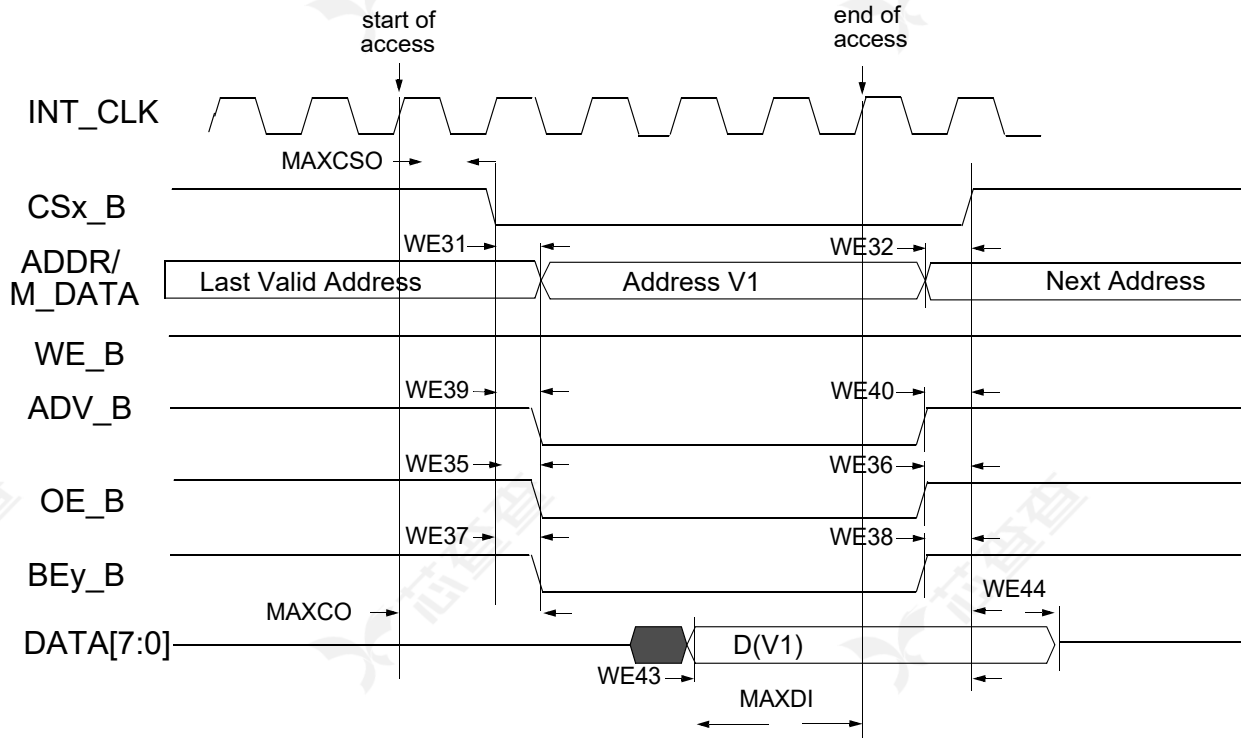
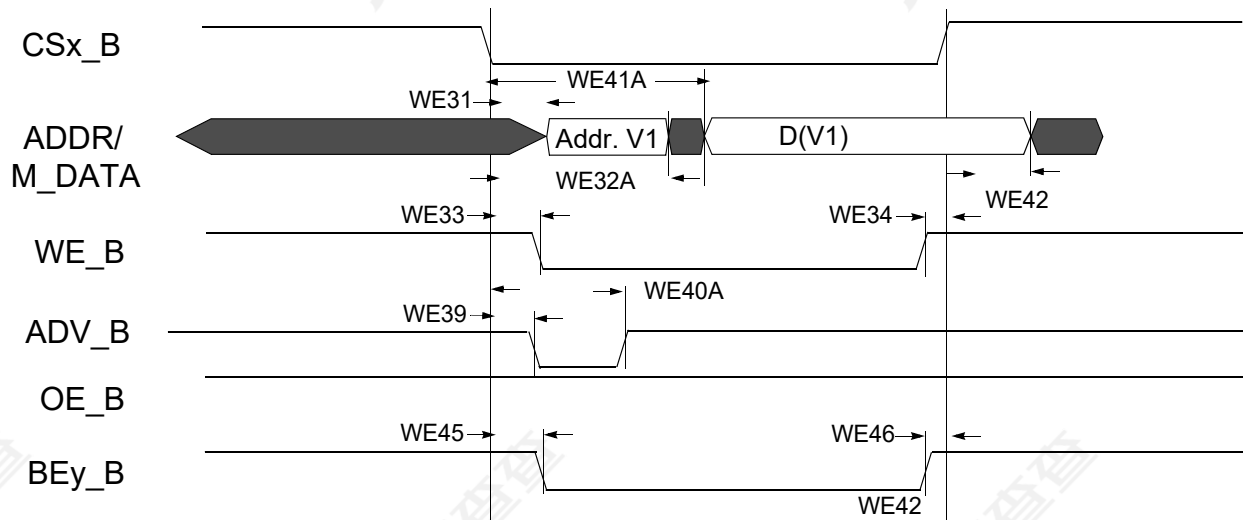
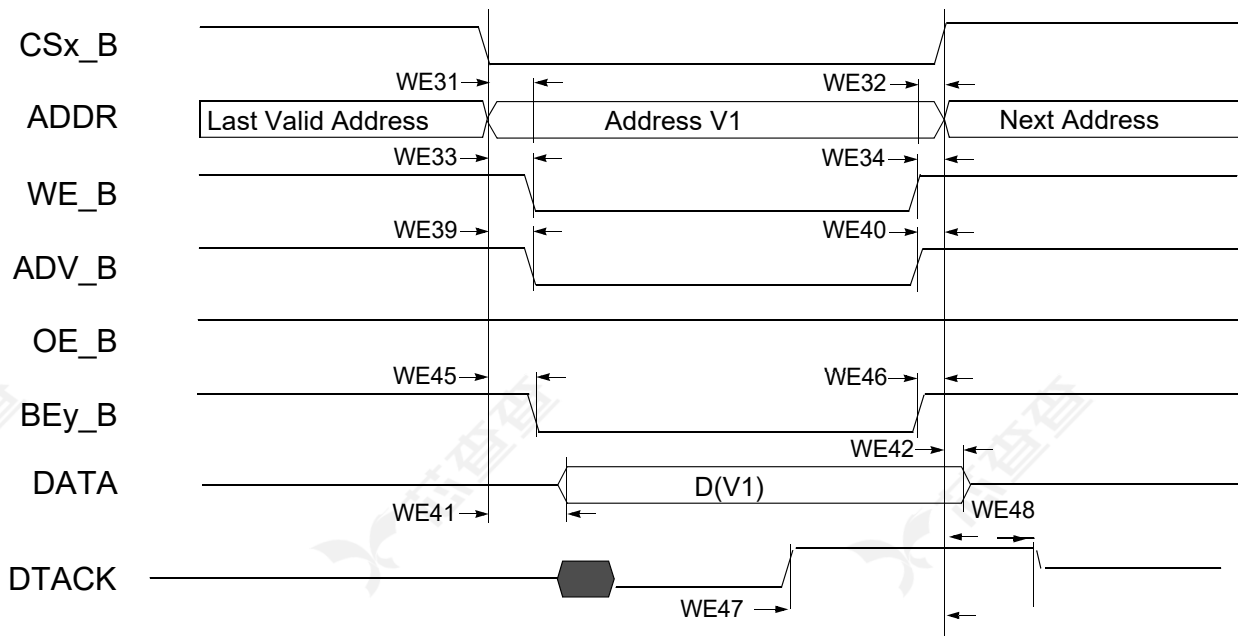

Figure 22. Asynchronous Memory Read Access (RWSC = 5)
Figure 25. Asynchronous A/D Muxed Write Access
Figure 27. DTACK Write Access (DAP=0)
Figure 22 through Figure 27, and Table 42 help to determine timing parameters relative to the chip select (CS) state for asynchronous and DTACK EIM accesses with corresponding EIM bit fields and the timing parameters mentioned above.
Asynchronous read and write access length in cycles may vary from what is shown in Figure 22 through Figure 25 as RWSC, OEN, and CSN is configured differently. See i.MX53 reference manual for the EIM programming model.